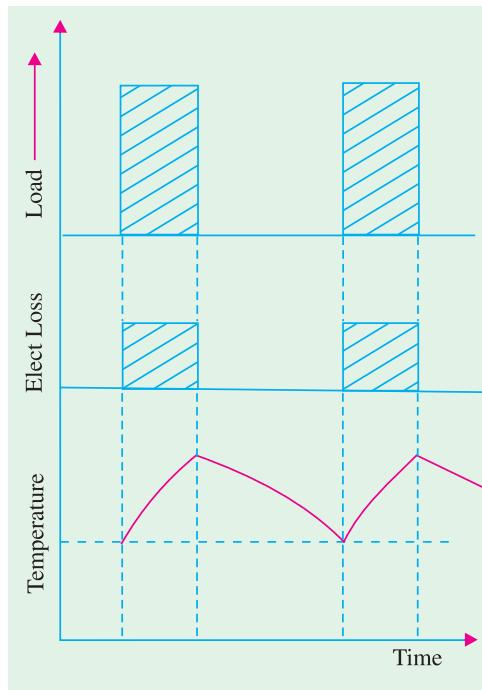

Fig. 45.2
**(a)** In this type of load, motor is loaded for a short time and then shut off for a sufficient long time, allowing the motor to cool down to room temperature as shown in Fig. 45.2. In such cases, a motor with a short time rating is used as in a kitchen mixie.